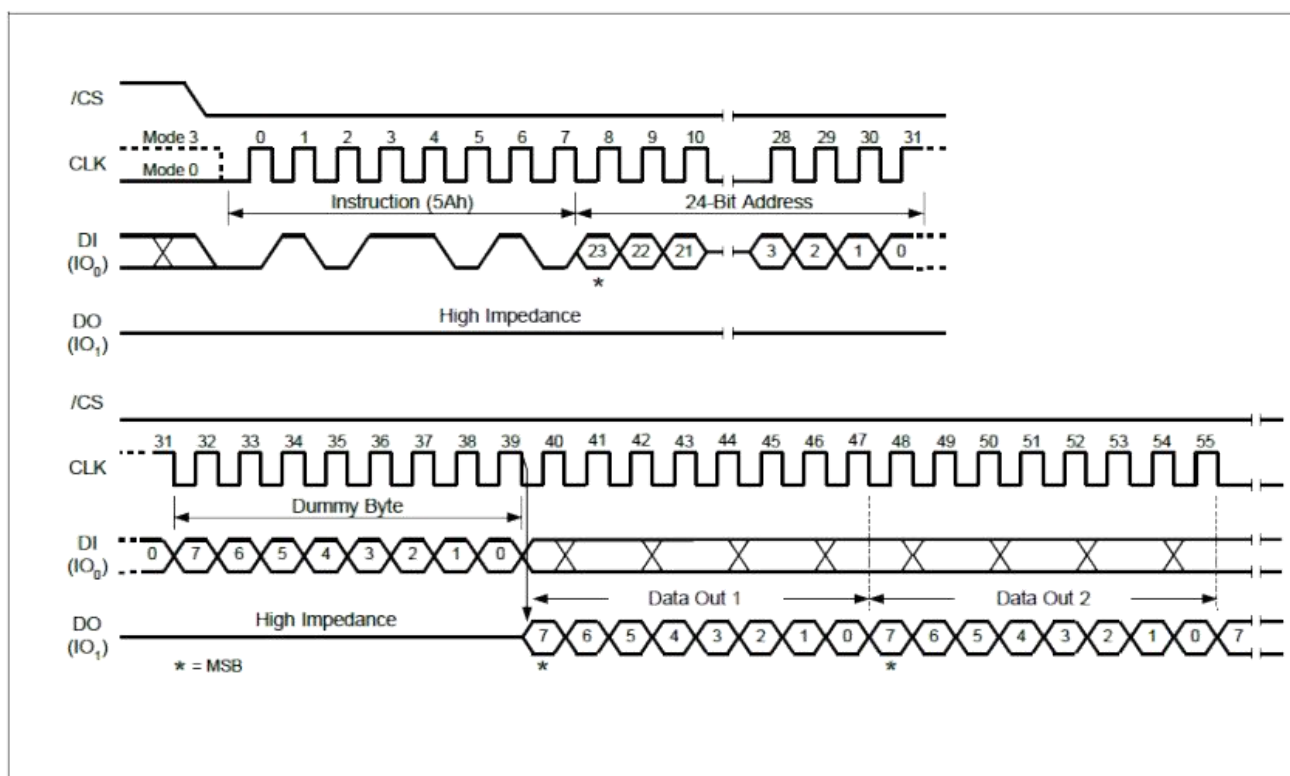

Figure 29. Read SFDP Register Instruction Sequence Diagram
The Read SFDP instruction is initiated by driving the /CS pin low and shifting the instruction code “5Ah” followed by a 24-bit address (A23-A0) (1) into the DI pin. Eight “dummy” clocks are also required before the SFDP register contents are shifted out on the falling edge of the 40th CLK with most significant bit (MSB) first as shown in Figure 29. For SFDP register values and descriptions, please refer to the Chuangfeixin SFDP Definition Table.